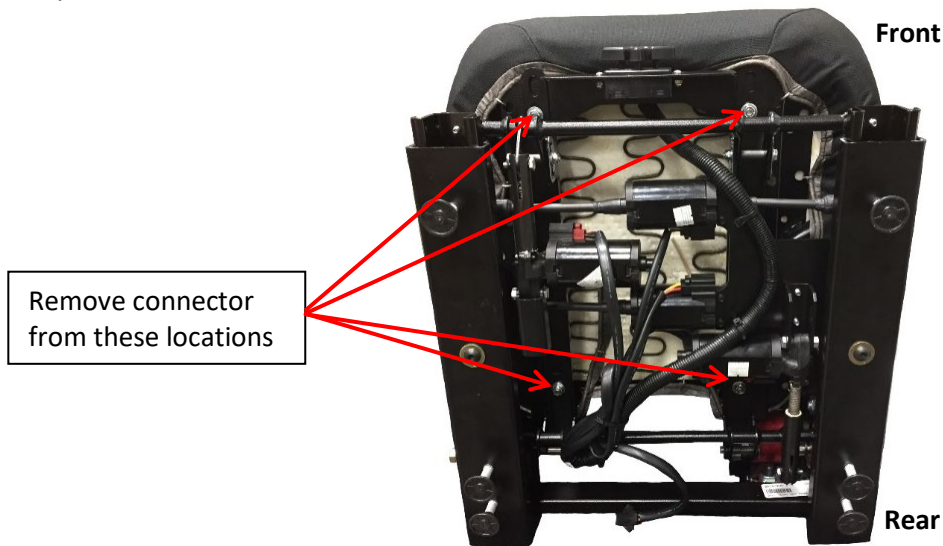

Figure 15 – BOTTOM VIEW of Seat
4. Remove four (4) fasteners from the bottom of the seat cushion. See following figure for location. Save hardware for reuse. Tip: Start with the front location; raise the front of the seat to gain space underneath the seat and improve access to the rear fasteners. Use ½" socket with swivel knuckle on short extension driver.
10. Secure the seat cushion using the original hardware as shown in Figure 15.